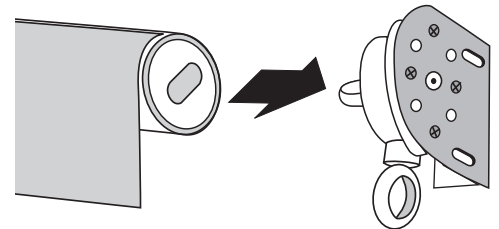

Fig. 3
a. First insert the Clutch Plug into the Crank Unit. (fig. 3)